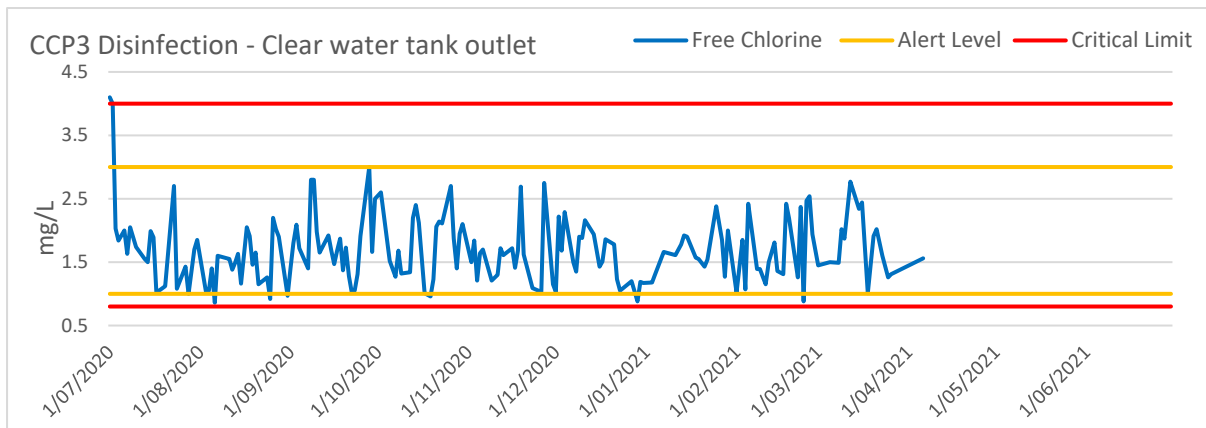

Figure 4.6.7c - CCP3 Disinfection – Free Chlorine Clear water tank outlet
One (1) CCP1 Abstraction Critical Limit exception and an associated Alert Level exception occurred in the Bellbrook supply on the 1/07/2020 (Table 4.1 and Figure 4.6.7c); this event is discussed in Section 7 Water Quality Incident or Emergency.
The five (5) CCP3 Disinfection Alert Levels occurred intermittently throughout the year (Figure 4.6.7c) were caused by high manganese's levels that consumed free chlorine residuals. On each occasion Water Operators followed CCP SOP that included checking dosing equipment and confirming adequate disinfection throughout the network.